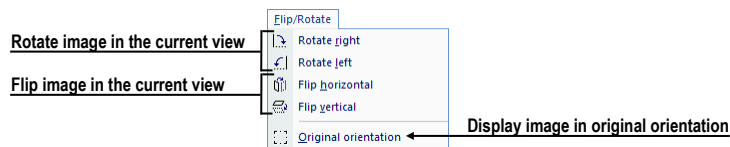

Figure 45 – Flip/ Rotate menu
- **Flip/Rotate** – flipping and rotating the image in the current view (see Figure 45). Annotations and measurements